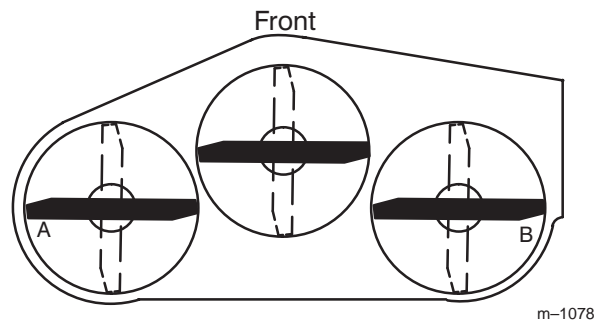
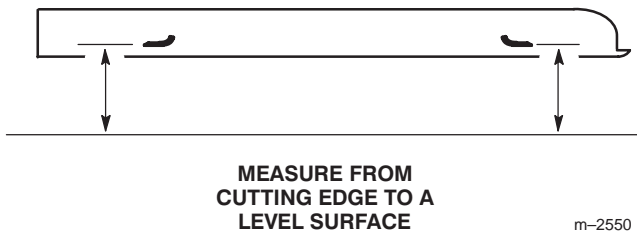

Figure 20
Figure 21
2. Position the blades side-to-side (Fig. 20). Measure at **A** and **B** locations (Fig. 20) from a level surface to the cutting edge of blades (Fig. 21).